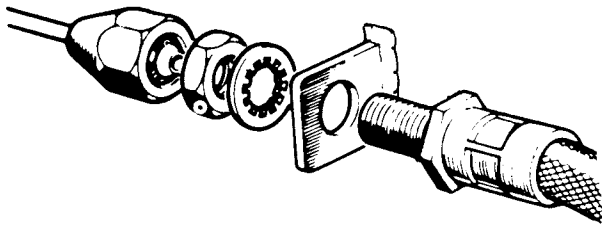

Fig J2.10
- (5) Refer to Fig J2.10. Disconnect the front brake pipes at the connections with the flexible pipes, one each side of the vehicle, and withdraw the flexible pipes from the chassis brackets.
- (6) Depress and wedge the brake pedal to prevent further leakage of brake fluid.